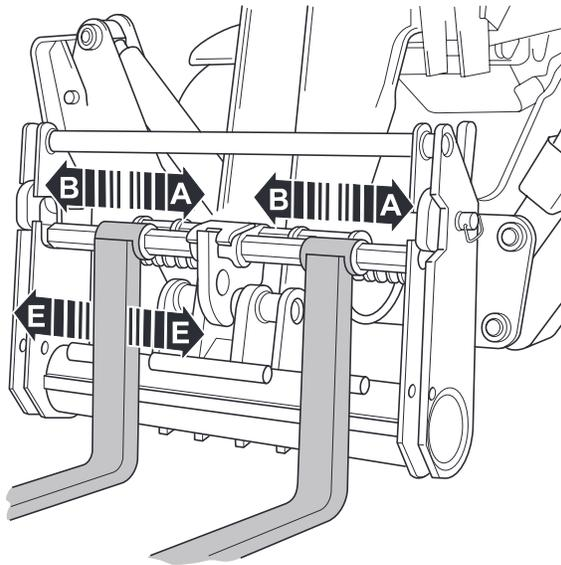

Fig 337.
- 2 Use the auxiliary control to sideshift the right hand fork only, as at **E**, in order to position the forks. → Fig 337. \(□ 335\).